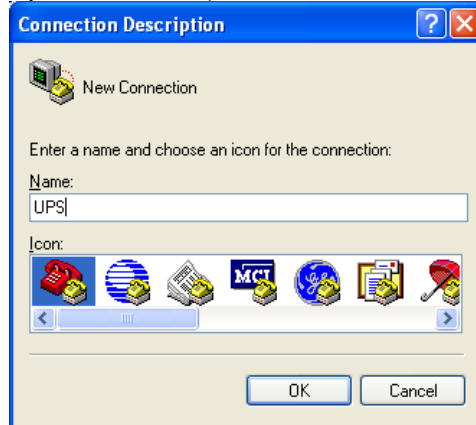

Figure 13: Connection Description Screen
Step 2: Click on the HyperTerminal icon. It will pop up "Connection Description" screen as shown in Figure 13. Enter a name and select an icon for your unit. Then, click OK.